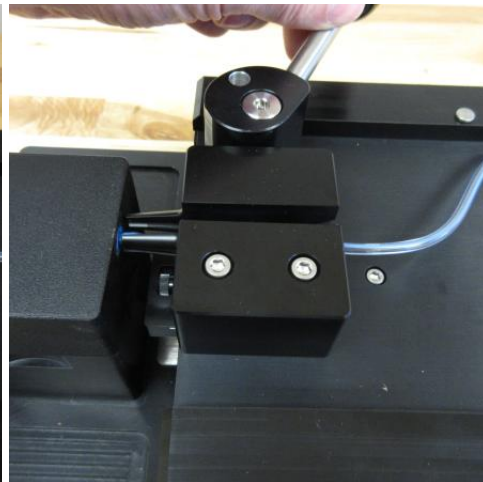

Figure 10
- Open the jaws and then push the thrust lever partway forward so as to clear the stop gate. (Figure 10)